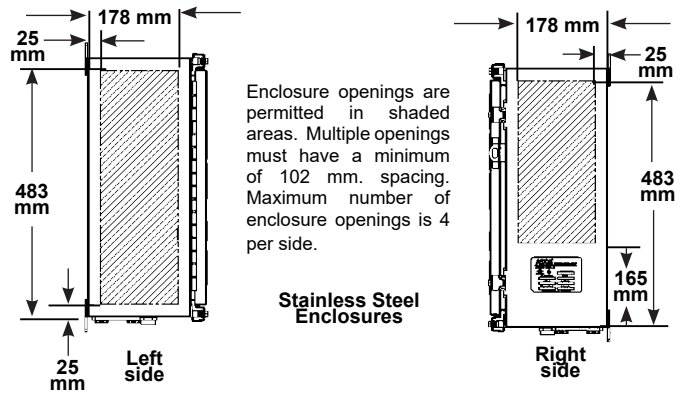

Figure 3B. Enclosure Openings
General (Figure 3B)
3. Cable/conduit connections can be added in location as shown on Figure 3B. Entry of external conductors and cables must be through properly installed and suitable certified flameproof cable entry devices and in accordance with ATEX Zone 1 increased safety requirements. Assemble and install cable glands per manufacturer's instructions. Connect cable ground connections to the grounding/ earthing terminal blocks or grounding / earth studs provided internally and externally.